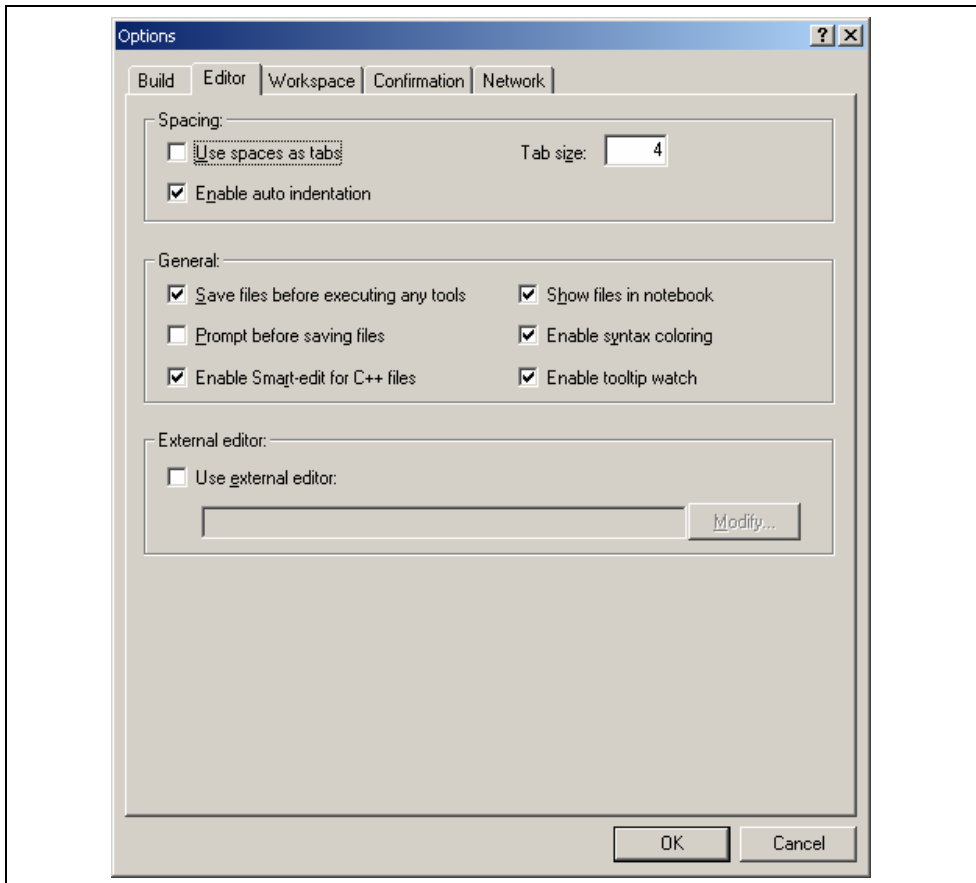

Figure 6.12: Options Dialog Editor Tab
1. Select [Tools->Options...]. The “Options” dialog will be displayed. Select the “Editor” tab (figure 6.12).
The High-performance Embedded Workshop allows you to customize file save on the “Editor” tab of the “Options” dialog (figure 6.12). To open the tab, select [**Tools->Options...**] and click the “Editor” tab.